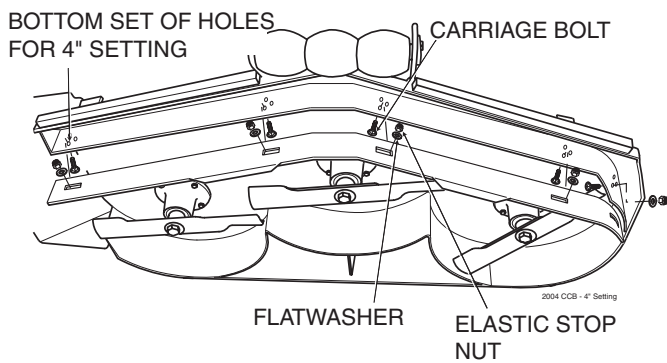

Figure 17. 4" Custom-Cut Baffle Position
- C. 4" Position (factory setting, Velocity Plus Deck) - baffle is installed using the bottom set of holes on the front baffle welded inside the cutter deck. (See Figure 17). Placing the baffle in the 4" setting will enhance fall cutting (leaf pickup) and reduce cutter deck "blowout".